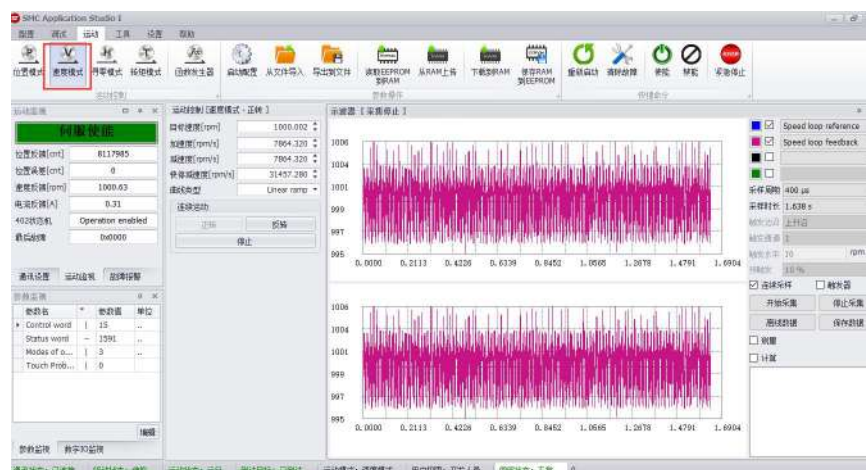

Figure 4-32 Interface of motion control in velocity mode
1. Click "**Motion**" in the main menu, and click "**Velocity Mode**". The interface of motion control in velocity mode shows as in Figure 4-32.